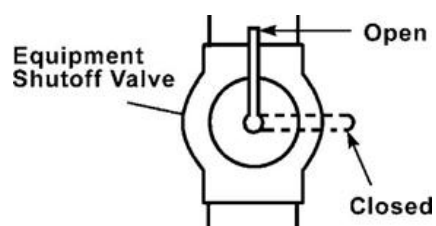

Figure 15 –Equipment Valve
1. Open equipment shutoff valve (see Figure 15).
1. Close equipment shutoff valve (see Figure 15, page 14).
3. Check all joints from gas meter to equipment shutoff valve (see Figure 15).